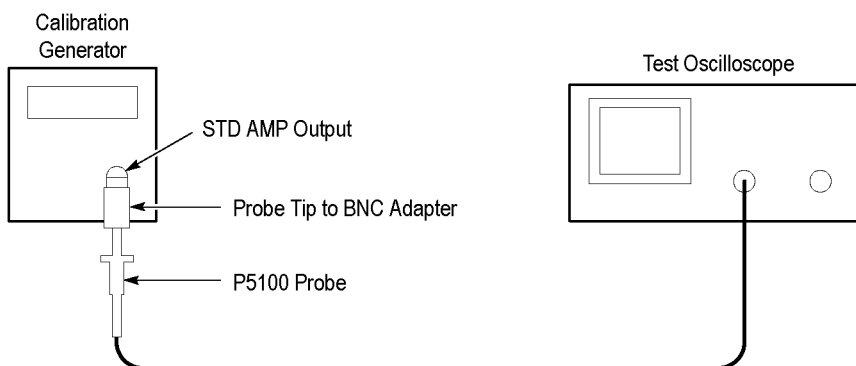

Figure 6: Gain Adjustment Setup
3. Connect the probe tip to the unterminated **STD** output of the calibration generator using the optional probe tip to BNC adapter. (See Figure 6.)